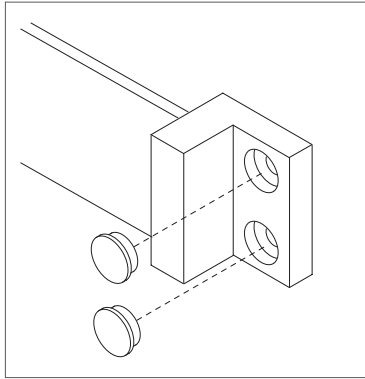

Figure 11
13. Install hole plugs over the end bracket screws (Figure 11).